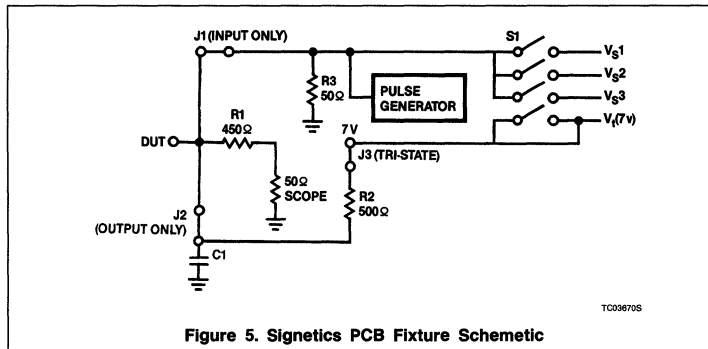

Figure 5. Signetics PCB Fixture Schematic
There are two types of signal lines on this fixture: input and output; both of which are 50Ω transmission lines. The input line is on the top side of the board and is always terminated in 50Ω . It is connected to the DUT via a .3" jumper, Jumper #1 for input. When this jumper is installed, the DUT pin is available only as an input. To allow this line to be used as an output, a .1" jumper, Jumper #1 for output, is used instead of the .3" jumper. This connects the DUT pin to the AC load when the DUP pin is an output. See Figure 5.
As illustrated in Figure 5, the load is shared with the 50Ω input of the measurement system; a 50Ω sampling oscilloscope. The 450Ω resistor: R1, is soldered to the socket pin of the device and is in series with the 50Ω input of the scope. Figure 6 illustrates this on the board layout of one input/output pin. This allows virtually a probe tip on the device pin. The load capacitor: C1, is a 33pF ceramic chip capacitor. This is added to the measured value of 17pF of board capacitance, achieving the 50pF value specified for the load. The distance from the pin to the capacitor is .5 inches and is adequate for the testing of these product families.
For testing 3-State parameters, the 500Ω resistor: R2, is connected to its pull-up supply. V_1 via a .3" jumper: Jumper #2. The V_1 supply is bussed to each pin and may or may not be connected with that jumper. See Figures 5 and 6.
hard to detect errors into the waveform. The second reason being that most suppliers of these technologies provide data based upon the Low-impedance approach and most large users of these products do so as well. This also allows the fixture to be used for ECL testing since that product uses a totally 50Ω environment. Figure 5 illustrates how this test fixture implements the 50pF/500Ω load schematically.
When the input is not used for a signal input, the line may be switched to one of three voltage sources: $V_s 1$ through $V_s 3$, by the use of a DIP switch on each pin. It may also be left open and then the 50Ω pull-down resistor: R1, pulls the line to ground and can be used as a hard low level. See Figure 5. These voltage levels are brought in from external supplies through banana connectors like V_{CC} . This scheme eliminates excessive cabling to each input to provide the static input levels and thereby reduces parasitic inductances and cross-talk. Each of the 3 busses and the V_t bus all have places for by-pass capacitors in the event of noise on the static levels. Figure 8 illustrates the DIP switch and SMB connectors and how they control the input stimulus and output measurement.
dedicated fixture. However, on a dedicated fixture, the pins are individually constructed to be either an input or an output, and in so doing, the fixture is usable for 1-to-4 devices. The Signetics fixture, once dedicated to a particular V_{CC} and GND configuration, is built up to have both input and output components on all signal pins. The selection of which pin is an output or an input is made by inserting the appropriate jumper, See Figures 5 and 6. The same applies in doing tri-state testing. The tradeoff here is that it would probably take less time to setup the dedicated fixture than the Signetics fixture. To help compensate for that tradeoff, we have the three V_s supplies that may be switched into any pin to provide input static levels and eliminate the need to bus input High or Low levels by external cabling. For the user that means the only connections being made to the fixture are:
- the V_t supply (banana jack): this is the tri-state pull-up voltage and is permanently connected to the bus to each pin. It is selectable by Jumper #2, see Figures 5 and 6. For FAST and ALS products this is 7V. For ACL products this is $V_{CC} \times 2$ and it is not used for ECL applications.